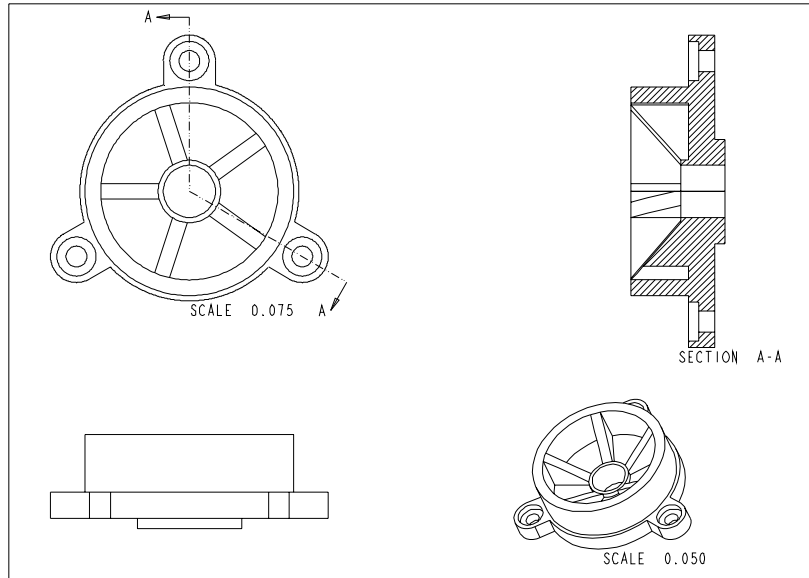

Figure 11-46 Different drawing views
- Generate the default 3D view of the model, see Figure 11-46.
4. The spacing between the hatching lines has to be reduced. Choose the **Half** option twice and then choose **Done** in the **MOD XHATCH** menu. Now, the hatching appears to be more dense, as shown in Figure 11-46.
2. Specify the center point for the placement of the general view below the section view, as shown in Figure 11-46; the **Drawing View** dialog box is displayed.
2. Select the center point for the detail on one of the ribs in the trimetric view, refer to Figure 11-46.